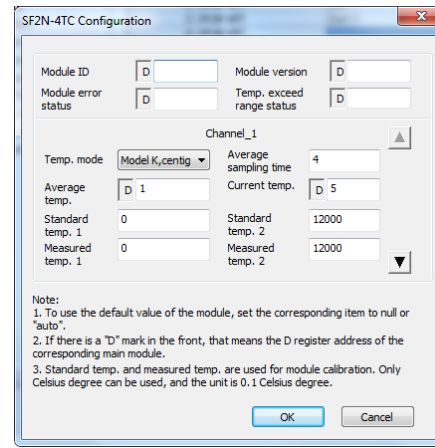
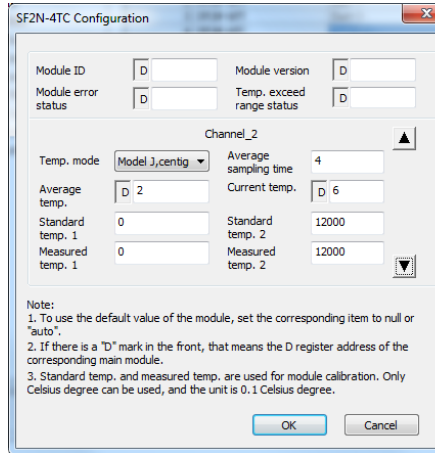

Figure 4-1 CH1 setting interface
Figure 4-2 CH2 setting interface
9. BFM#4094: software version information, displayed automatically as **Module Version** in **SF2N-4TC Configuration** dialogue box of the host software, as shown in Figure 4-1.
The setting interface of output CH1 is shown in Figure 4-1. After the setting, click the downward arrow button → to continue to set CH2 ~ CH4, whose setting interfaces are shown in figures 4-2 ~ 4-4. For detailed software usage, see *SF2N Series PLC Programming Manual*.